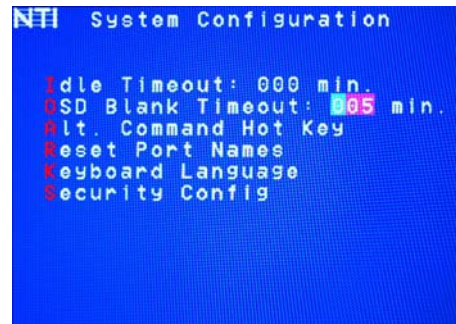

Figure 27- Change the value of OSD Blank Timeout
1. press <O> from the System Configuration menu to display the edit field around the value (see Figure 27)